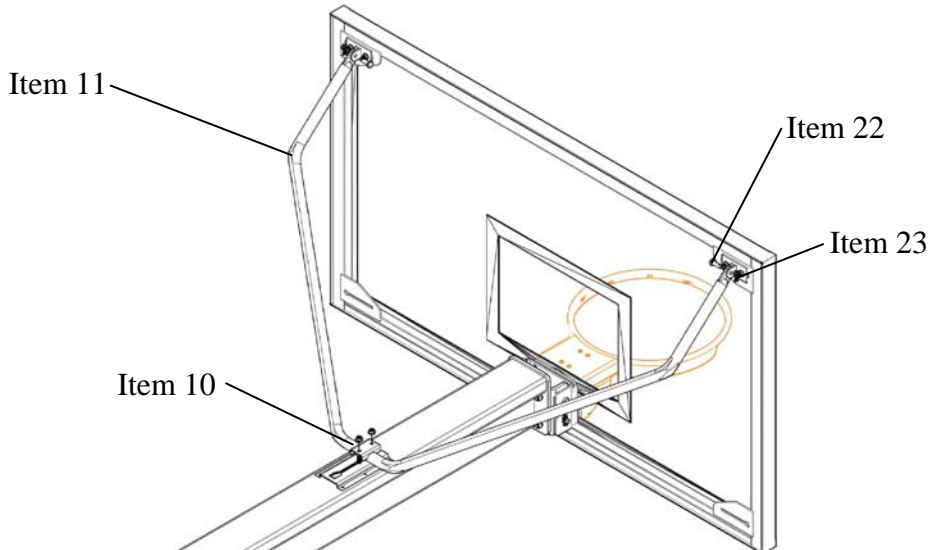

Figure 5
5. Attach the Backboard brace yoke (item 11) to the brackets installed in step 7 using the Clevis Pins (item 22) and Retainer Clips (item 23) as shown in figure 5.
6. Position the backboard brace clamp (item 10) over the yoke and yoke attachment plate on the boom as shown in figure 5. Secure the clamp with two 3/8-16 x 2-1/4" carriage bolts and whizlock nuts.